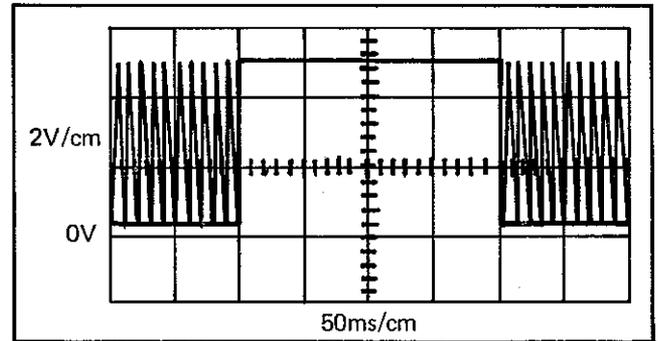
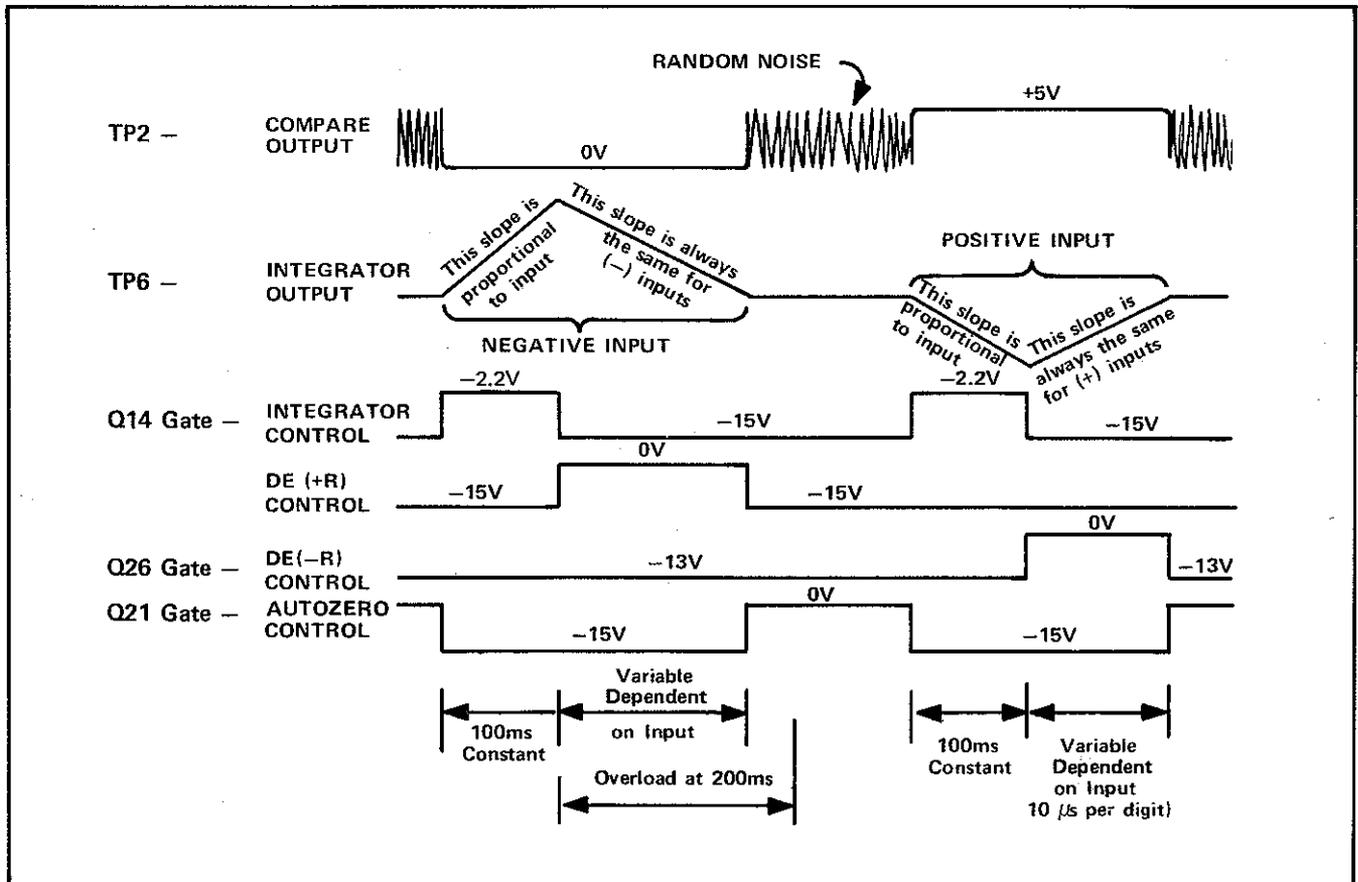

Figure 4-2. A/D CONVERTER OUTPUT SIGNAL
Figure 4-3. A/D CONVERTER CONTROL SIGNALS
- d. The signal at TP2 should be as shown in Figure 4-2.
4-59. The stable +5 volt section of the waveform shown in Figure 4-2 should be 200 ms long for a +1 volt dc input to the 8600A. If the dc input voltage is increased to full scale (2 volts dc) the stable +5 volt portion of the waveform should increase to 300 ms. If the output at TP2 is correct the problem is in the control and display section, proceed to paragraph 4-60. If the waveform is incorrect the waveforms provided in Figure 4-3 should help isolate the malfunction. The waveforms are given for both positive and negative inputs. The connection point in the circuitry is given at the left of each waveform.